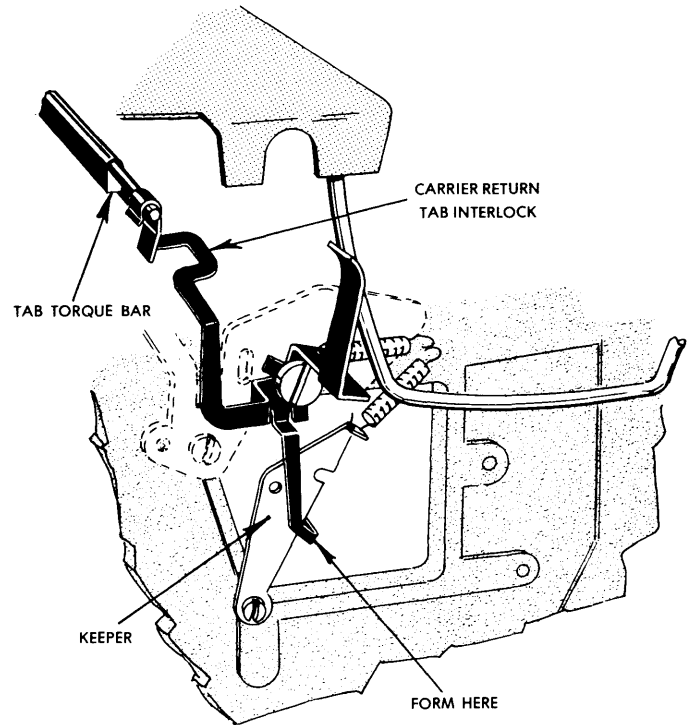

FIGURE 210. TOP COVER INTERLOCK
- b. A clearance of 1/16" to 3/32" exists between the lower lug of the cover interlock and the carrier return/tab interlock lever (Fig. 210).